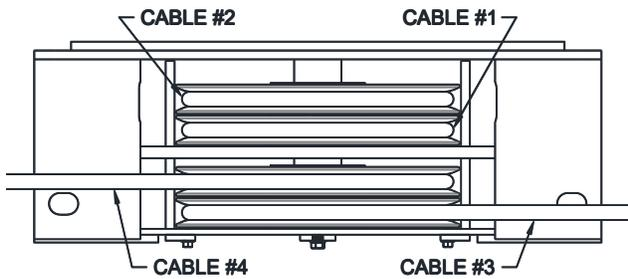

Fig 3 – Power Runway 4-Stack (rear view)
- 2) Unpack lift. Remove all packaging from Power Runway (power runway has four cable sheaves at rear end and two at front). Make sure the cables are in the proper sheaves at both ends of the runway, **Figs 3 & 4**.